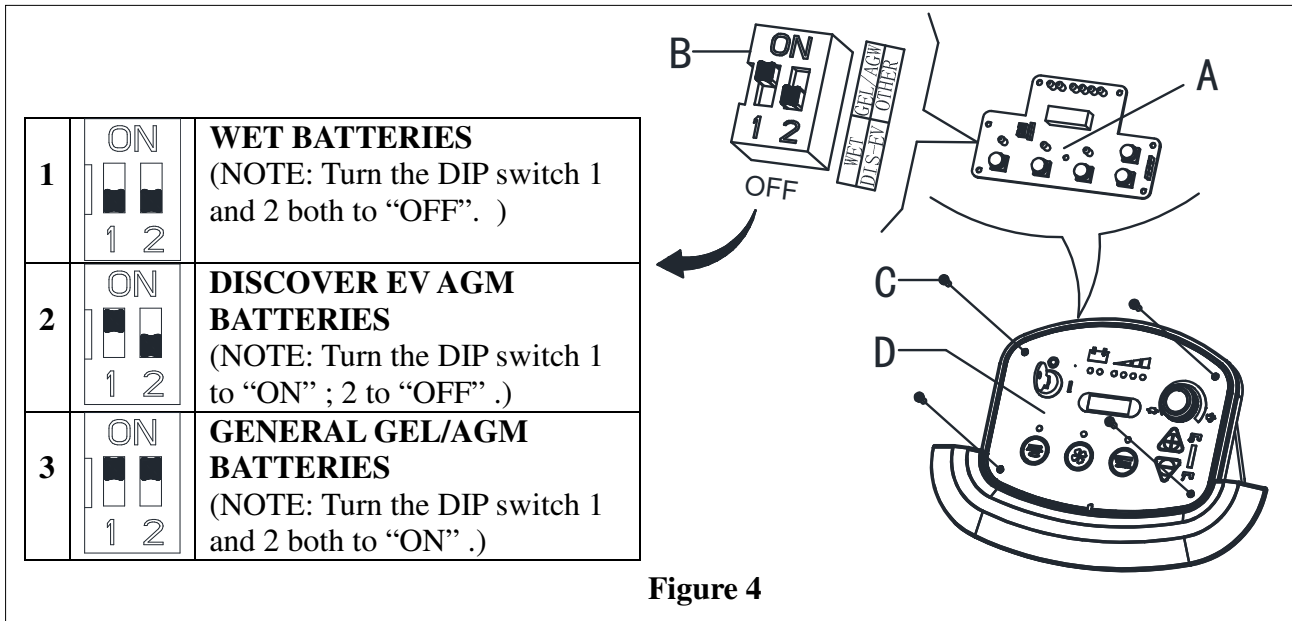

Figure 4
When install new batteries please refer to figure 4 to adjust the DIP switches. Otherwise the batteries may be damaged.
- Turn the ignition key (35) to “I” and in the very first seconds of machine operation pay attention to the following:
- If the first green warning light (38) is flashing, the machine is set to GEL/AGM.
- If the yellow warning light (37) is flashing, the machine is set to Discover EV AGM.
- If the red warning light (36) is flashing, the machine is set to WET.
- Remove the screws on control panel (C, Figure 4), then turn over the PCB (A Figure 4)to find the DIP switch (B,Figure4) for setting battery type(WET or Discover EV AGM or GEL/AGM), (Refer to 1 or 2 or 3).